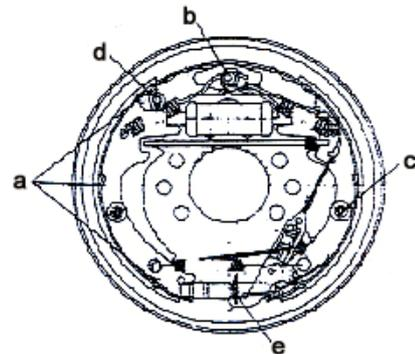

Figure 2-25
- (1) Coat the cup and piston on the brake cylinder with brake fluid and assemble the spring, piston cup, piston and protection loop in sequence.
- (2) Mount brake cylinder on the brake backing plate.
- (3) Mount the brake backing plate on the drive axle.
- (4) Coat all the positions as shown in Figure 2-25 with heat-resistant grease, and be careful not to smear any oil on the friction disk.